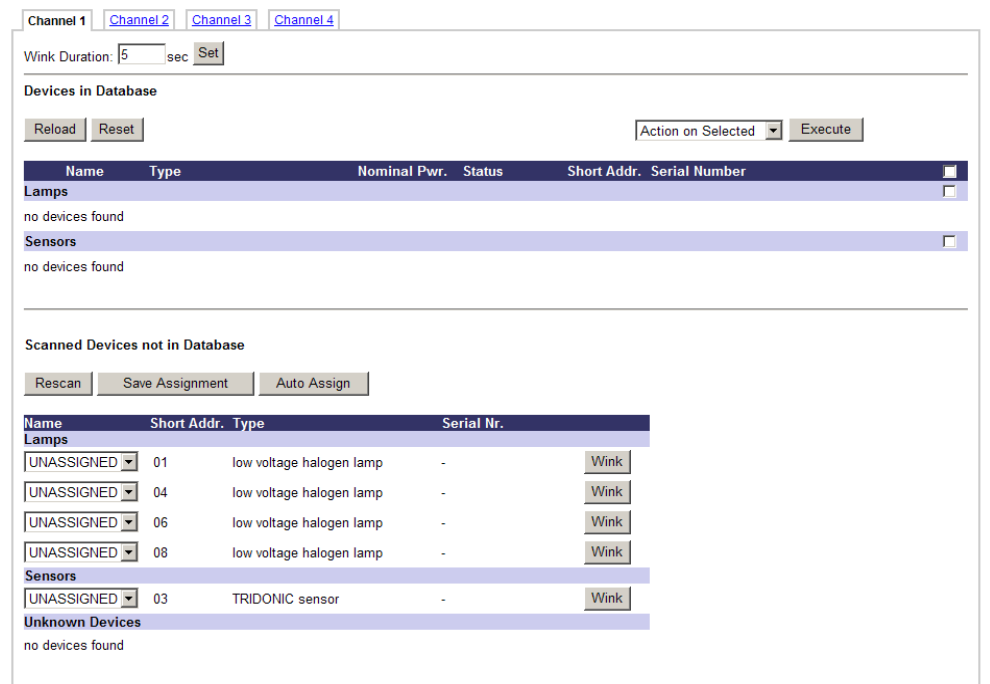

Figure 26: DALI Installation Web Interface: Detected DALI Devices
- The L-DALI scans the DALI channel and lists the detected devices under **Scanned Devices not in Database** in the lower half of the Web interface (see Figure 26).